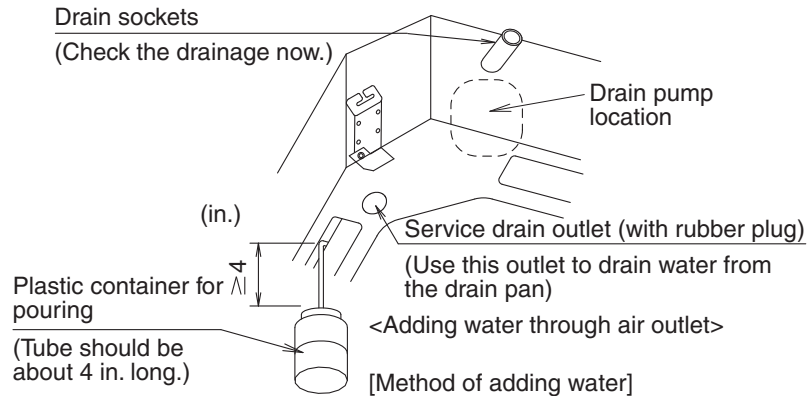
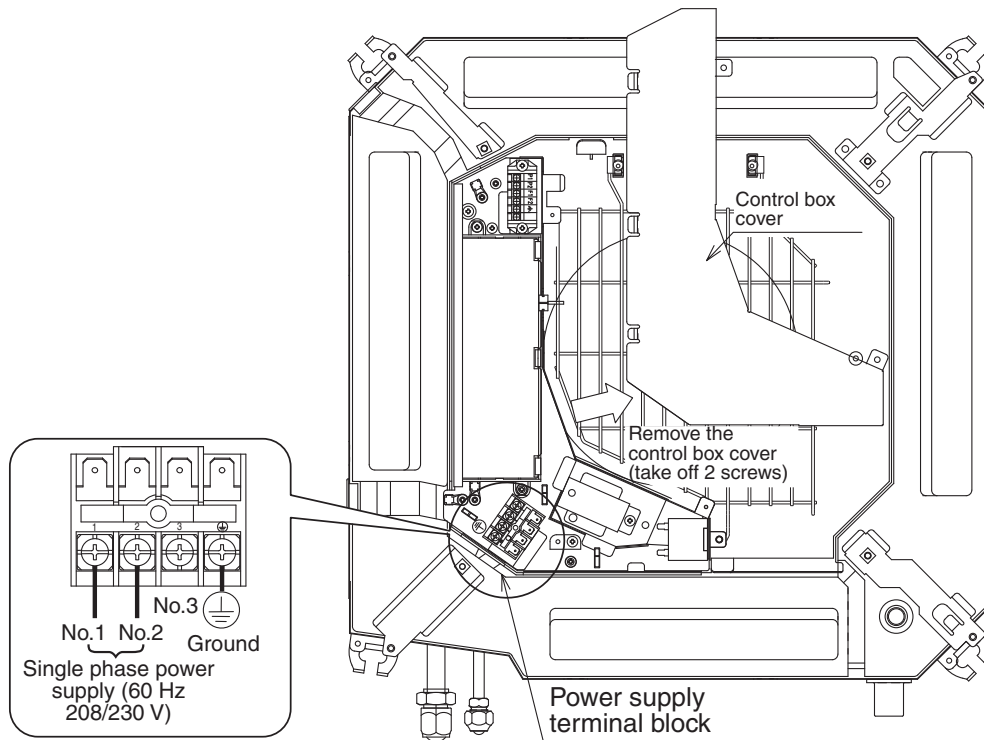

Fig. 23
Fig. 24
**(2) After piping work is finished, check if drainage flows smoothly.**
- After confirming drainage (**Fig.23, Fig.24**), turn off the power supply and remove the power supply wiring.